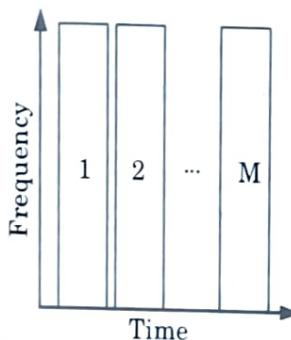

Fig. 3.5.2. Time division multiple access.
- TDMA divides the entire channel bandwidth into equal time slots that are then organized into a synchronous frame, as shown in Fig. 3.5.2.